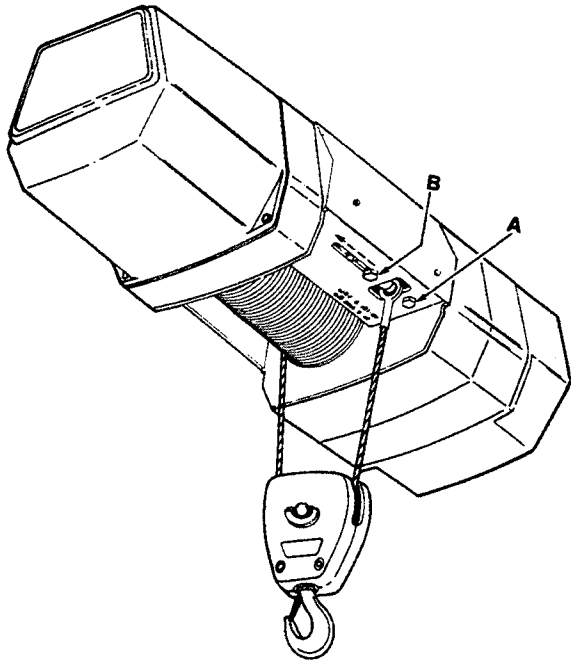

FIGURE 5-3. TWO PART SINGLE REEVING: STANDARD HEADROOM MODELS
- a. **HOISTS REEVED TWO PART SINGLE:** Refer to Figure 5-3 for parts identification and proper rope reeving.
- 8) Disconnect old rope dead end eye by removing one dead end anchor screw (A, Figure 5-3) and loosening the other screw (B) approximately three turns. Lift the dead end eye up and slide the anchor pin back by grasping the head of screw (B).
14) Reassemble the load block onto the new wire rope. See Figure 8-9A for aid in reassembly. Refer to Figure 5-3 to make sure that the rope is reeved correctly.
1. Hoist overloaded. 2. Motor brake requires adjustment. 3. Worn overload limiting clutch. 4. Low voltage. 5. Faulty SINPAC starting switch or start capacitor (single phase hoists only).	1. Reduce load within rated capacity of hoist. 2. Check motor brake adjustment. See Figure 5-3. 3. Replace clutch. 4. Check voltage at hoist power cord with hoist starting. Voltage should be no less than 90% of voltage specified on hoist. 5. Replace faulty component.